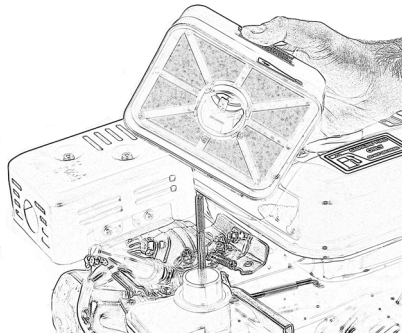

Figure 24
- Open the wing nut on the top of the air filter housing and pull the housing upwards, Fig. 24.